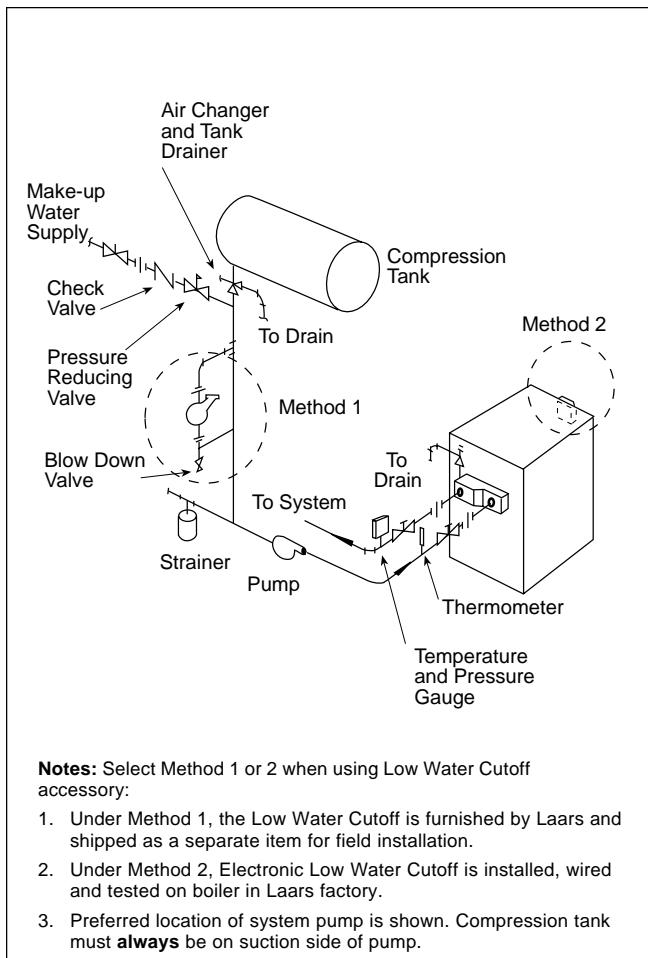

Figure 9. Boiler Piping.
3. A boiler installed above radiation level must be provided with a low water cutoff device either as part of the boiler or at the time of boiler installation (see Figure 9).
1. If a strainer is employed in a pressure reducing valve or in the piping, clean it every six (6) months.
2. At start-up and every six (6) months thereafter, the pilot and main burner flame should be observed for proper performance (see Figure 9 and 10; see attached lighting and shutdown instructions for proper pilot flame pattern). If flame has the appearance of "sooting" tips, check for debris near orifices. Call service technician.